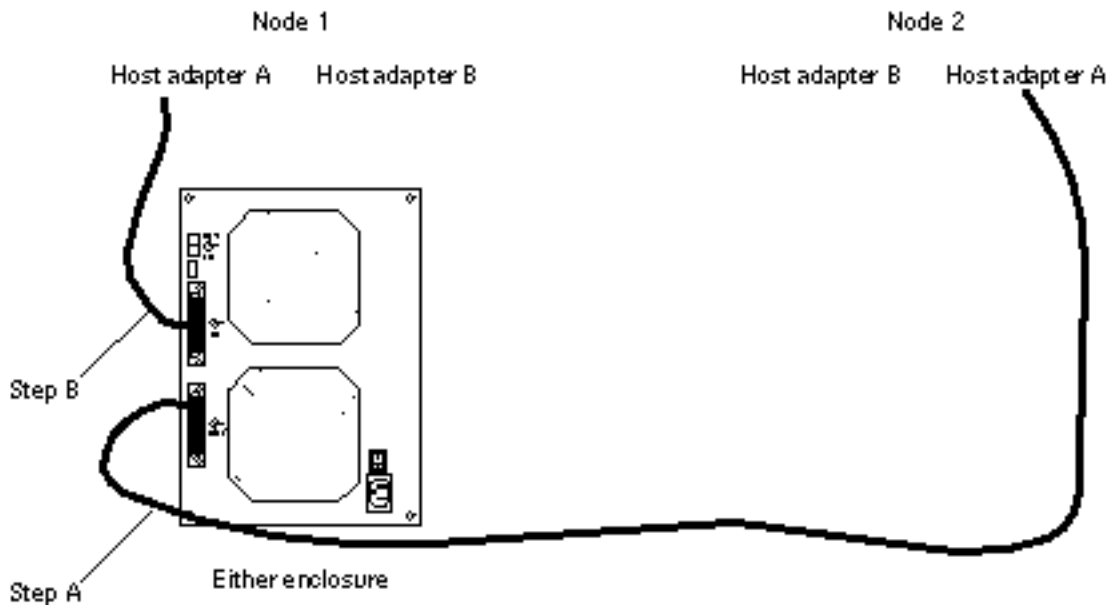

Figure 4-4 Disconnecting the SCSI cables
3. Disconnect the SCSI cables from the enclosure, removing them in the order shown in Figure 4-4.
6. Connect the SCSI cables to the new enclosure by reversing the steps shown in Figure 4-4.